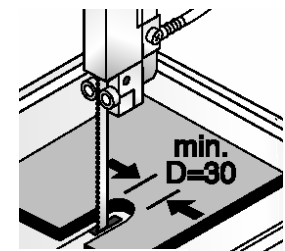

Fig. 3
5. While sawing assure a sensitive feed! The smallest possible sawing radius is 30mm (Fig. 3).